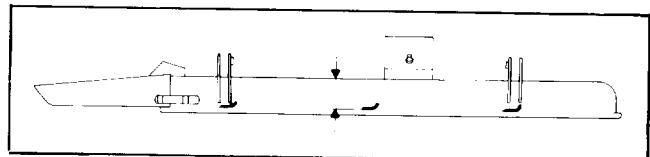

Figure 21
2. Rotate blade until the ends face forward and backward (Fig. 21). Measure from inside of cutting unit to cutting edge at front of blade (Fig. 21), and remember this dimension.